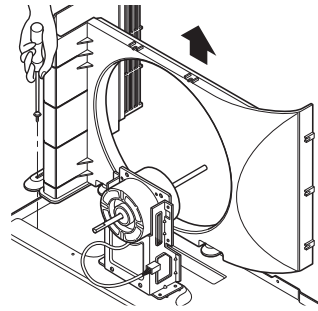

FIG. 9
3. Remove the shroud. (See Fig. 9)